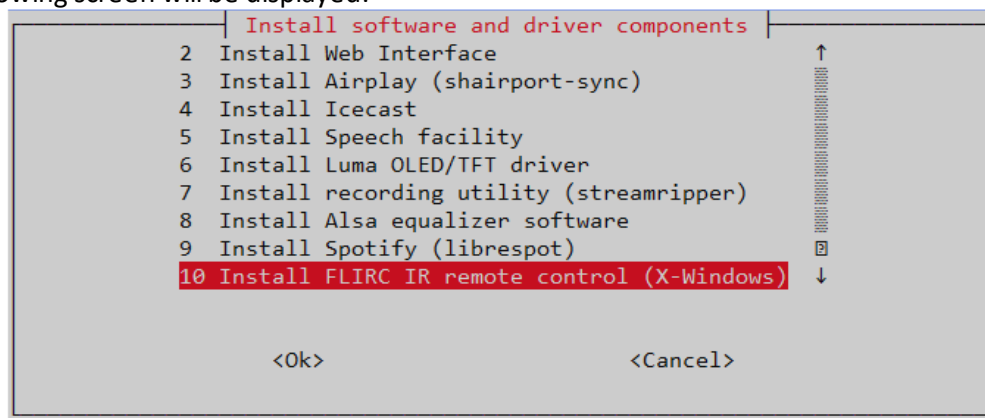

Figure 229 Install FLIRC IR remote control
- Select option **10 Install FLIRC IR remote control (X-Windows)** from the **radio-config** menu shown in *Figure 229 Install FLIRC IR remote control* on page 171. Note that you will need to use the down arrow key on your keyboard to see option 10.